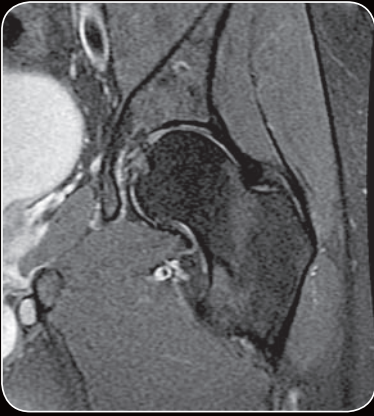

Figure 2. GEM coronal hip with off-center FOV and FatSat.
Figure 2. Evaluation of articular cartilage degeneration of the knee by T2 mapping. T2 calculated maps of articular cartilage overlaid on morphological images for a representative subject. The red and blue colors of the color bar represent degeneration with a long T2 and healthy region with a short T2, respectively. T2 is prolonged in the superficial over the middle layer in the femoral medial condyle (arrowhead), suggesting cartilage degeneration accompanied by the irregular arrangement of collagen and an increase in the water content (A). Arthroscopic findings of this case: cartilage degeneration accompanied by clefts and focal fibrosis is observed in the region corresponding to that with T2 prolongation on T2 mapping (arrowhead) (B).